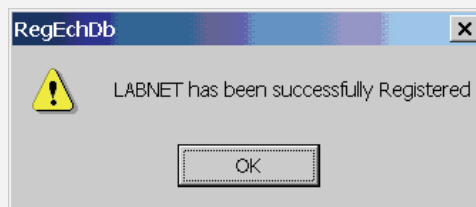

FIGURE 3-10. SITE DATABASE INSTALLED
5. When the RegEchDB program finishes, a popup message informs the user that the network has been successfully registered. Click on the **OK** button to close this message. Figure 3-10